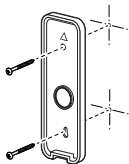

fig. 2
2. Use the rear of the bracket as a stencil to mark where you will drill. (fig. 2)
3. Drill the holes and insert the wall plugs (if needed) in the holes. (fig. 2)
4. Screw the rear of the bracket onto the wall. (fig. 2)